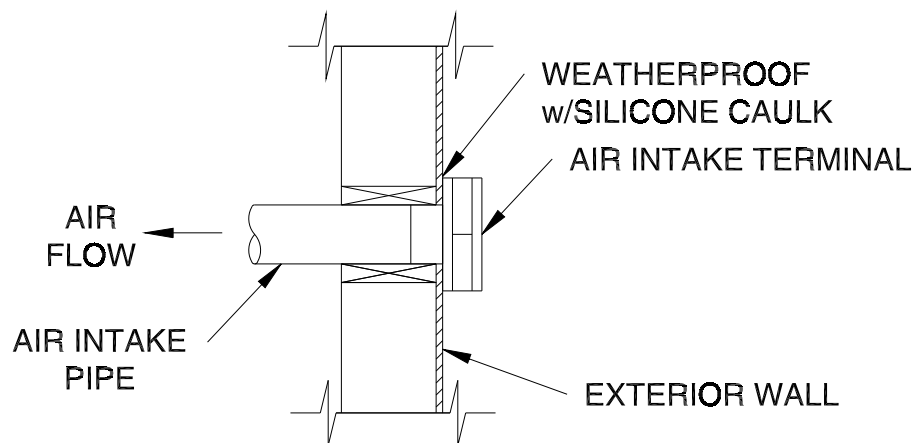

Figure A-3: Horizontal Installation of Air Intake Terminal
- a. Horizontal venting applications use the terminal provided with the Direct Vent Conversion Kit. Install this terminal so that it is flush with the wall as shown in Figure A-3. Seal the terminal to the wall using silicone caulk.